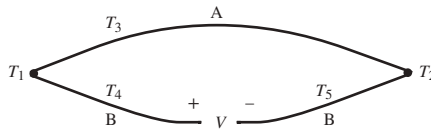

Figure 9.35 Law of leadwire temperatures.
1. *Law of leadwire temperatures.* The thermoelectric voltage due to two junctions in a circuit consisting of two different conducting metals depends only on the junction temperatures T_1 and T_2 . As illustrated in Figure 9.35, the temperature environment of the leads away from the junctions (T_3 , T_4 , T_5) does not influence the measured voltage. Therefore, we need not be concerned about shielding the leadwires from environmental conditions.